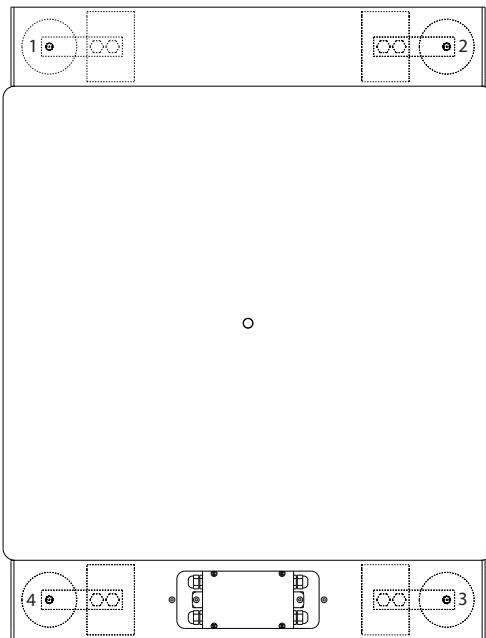

Figure 4-4. Corner Numbering - Top View of Scale
**NOTE:** Both the scale and the junction box are viewed from the bottom. To verify correct load cell/junction box terminal matching, see the numbers on the terminals inside the junction box and the corner numbering diagram in Figure 4-4 on page 16.
The four load cells are each wired to their respective terminals in the junction box according to the corner numbering system shown in Figure 4-4, and the coloring code in Table 4-2.